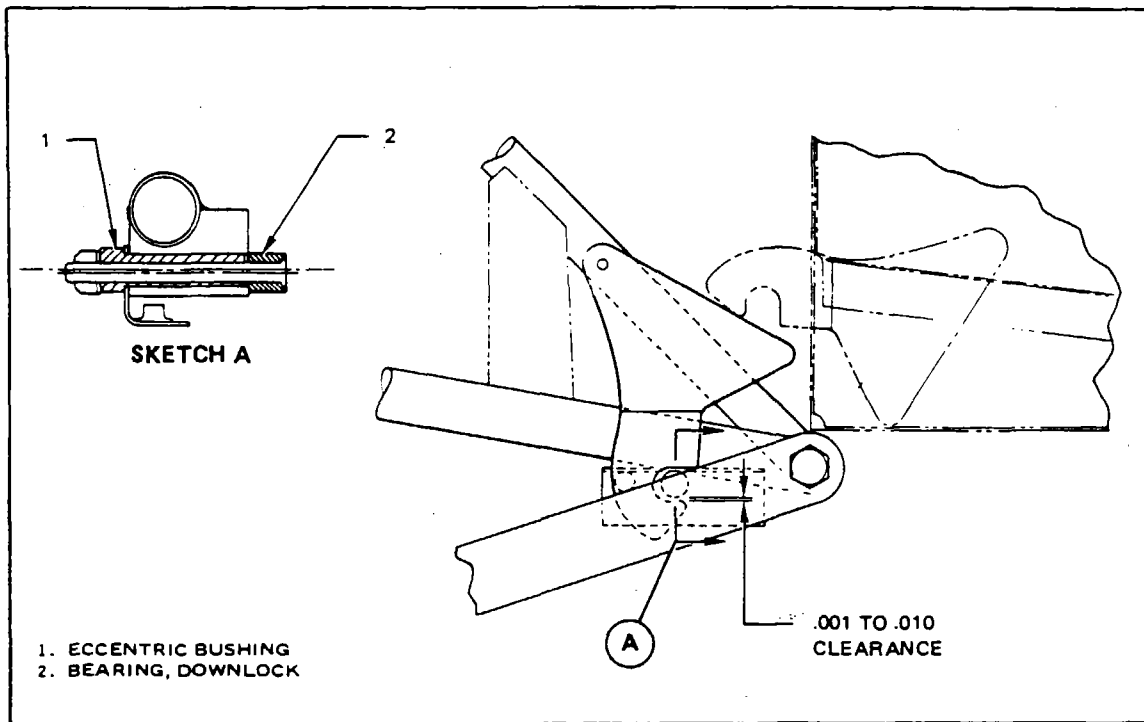

Figure 7-2b. Adjustment of Eccentric Bushing
3. Add the upper gear tension spring arm (45), bushings and washers on upper link (35) attachment bolt.
5. Install the lower gear tension spring arm (43) on the drag link bolt (29) on the right side of the gear oleo housing (25), secure and safety. A washer is installed on the bolt between the lower drag link and the arm.
- d. Connect the gear downlock spring (39) between the downlock (40) and the upper drag link (35).
- f. Adjust the eccentric bushing (used for downlock pin) with the gear extended and downlock engaged to obtain .001 to .010 clearance between the bottom of the down lock pin (bearing) and the downlock hook (Refer to Figure 7-2b).